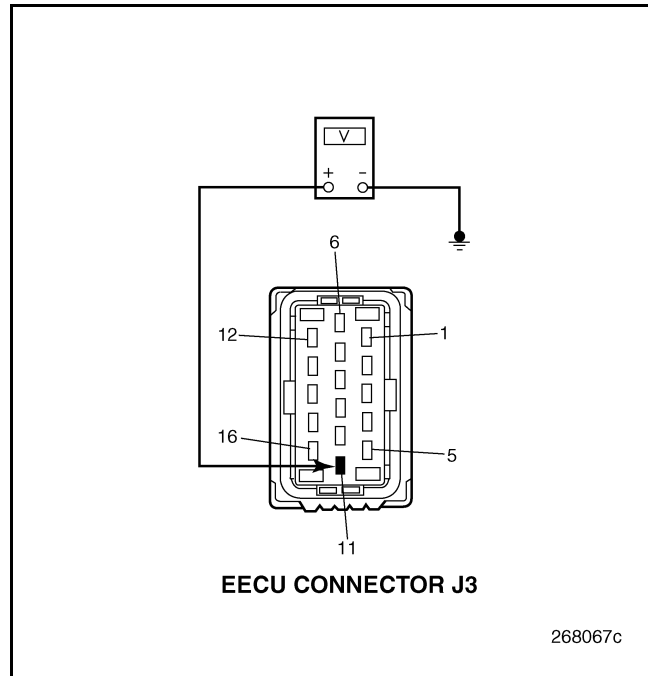

Figure 773
4. Measure the voltage between EECU connector J3 pin 11 and a good ground (see Figure 773).